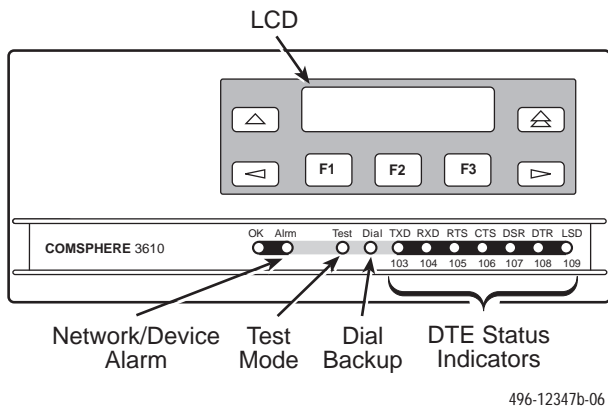

Figure 3-1. Model 3610 Front Panel
- Front panel on the Model 3610 DSU (see Figure 3-1).